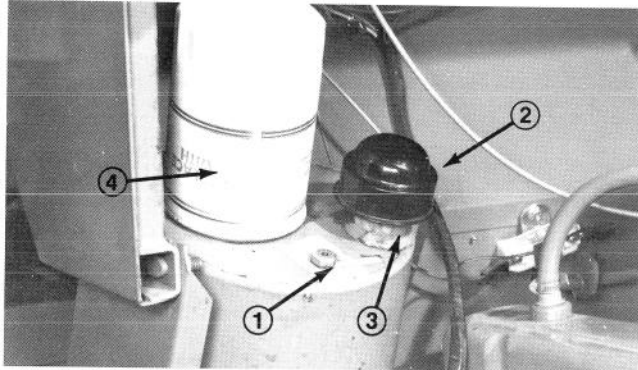

Figure 40
3. Free the dipstick with a 9/16 in. wrench and check oil level (Fig. 40).